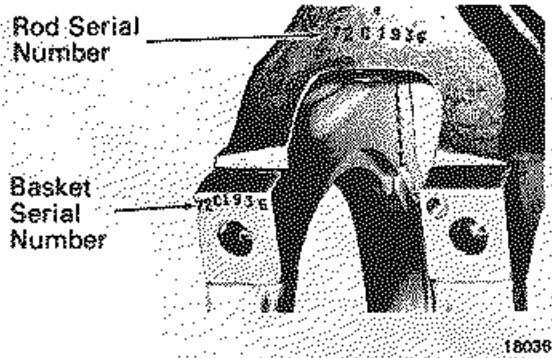

Fig. 5-30 - Rod And Basket Identification
13. Be sure and check, if a fork rod, that the rod and basket serial numbers match, Fig. 5-30.